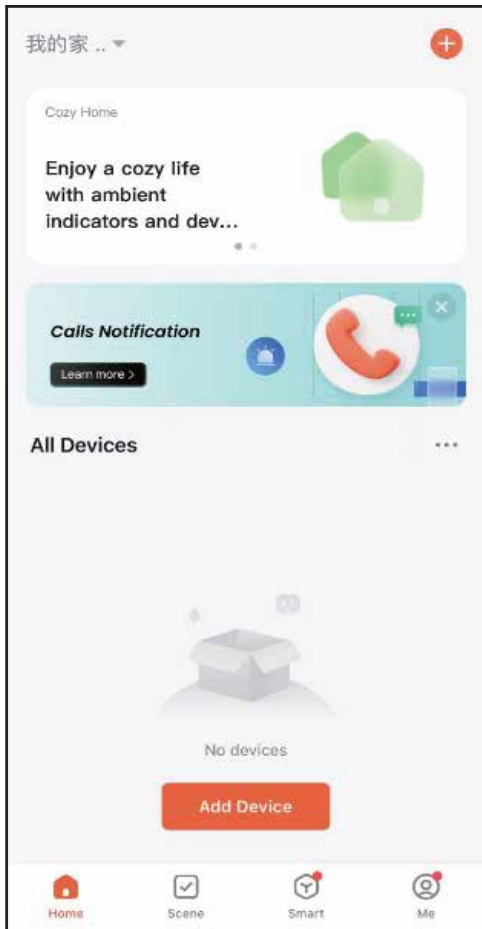
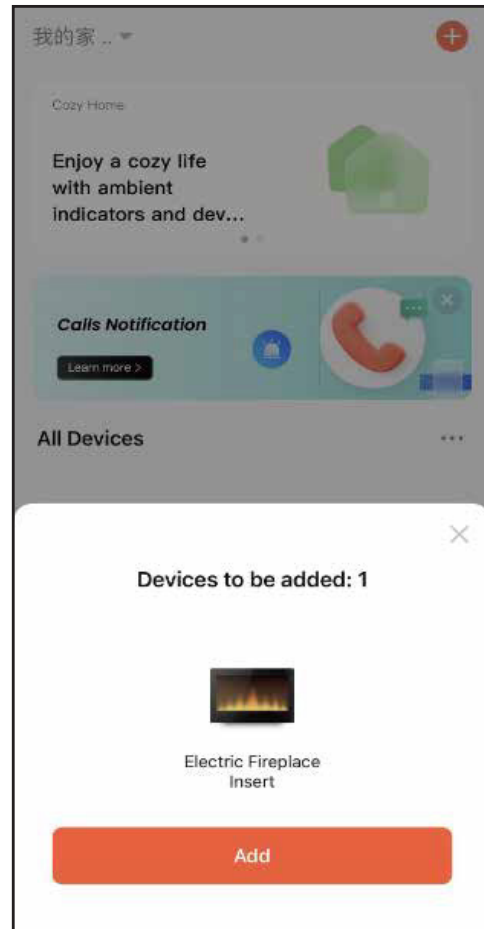
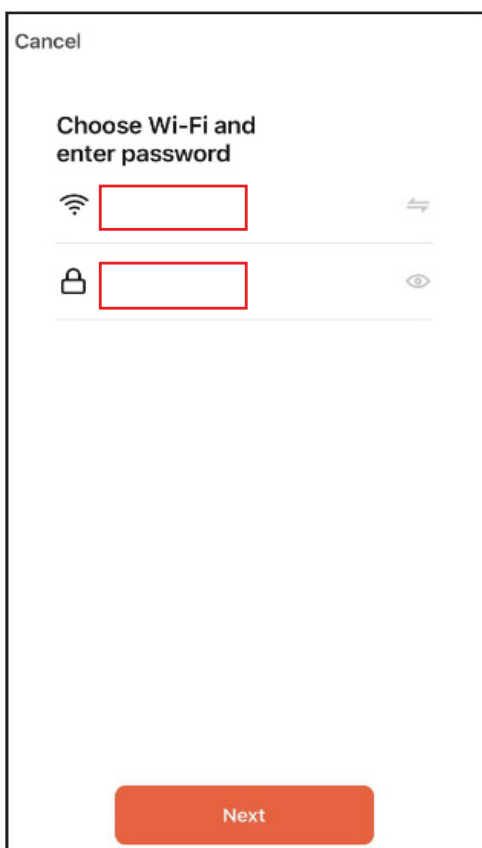
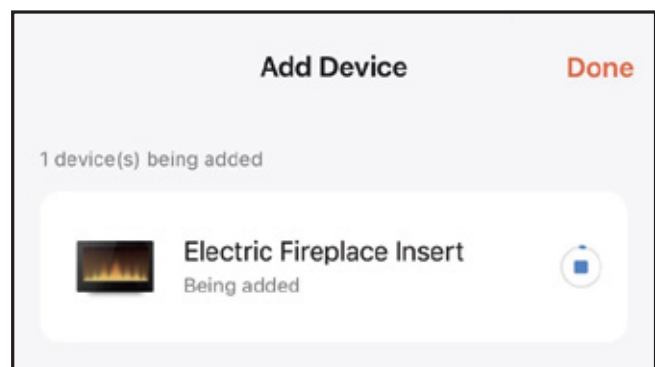

Figure 1
Figure 2
Figure 3
Figure 4
This heater is for use on 120 volts. The cord has a plug as shown at (A) in Figure 2. An adapter as shown at (C) is available for connecting three-blade grounding-type plugs to two-slot receptacles. The green grounding lug extending from the adapter must be connected to a permanent ground such as a properly grounded outlet box. The adapter should not be used if a three-slot grounded receptacle is available.
2. When you log in, click "Add Device" (Figure 1) to go to the next step. The APP will scan and add the fireplace to the APP automatically (Figure 2). Click Add. Enter your WiFi account name and password (Figure 3) and click Next. The APP will add the electric fireplace (Figures 4 and 5). Click Done to finish the WiFi setup.